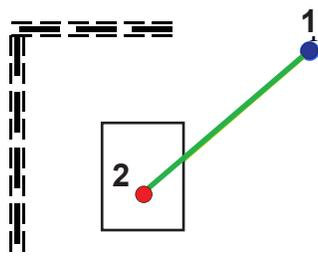

Figure 8
2. Get a string (green line) and tie one end to the gate bracket (see blue dot 1, **Figure 8**).
3. Tie the other end to the pivot shaft on the operator (see red dot 2, **Figure 8**).